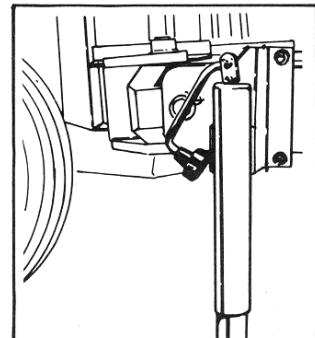

Fig. 31 Wing Tube Jack Mount
3. If hitch tongue is light, mount hitch jacks on wing tube before tractor is removed. (See Fig. 31 and Page 1-2 – Negative Hitch Weight Warning). Two wing tube jack brackets are standard on all Superweeders. The second wing tube jack bracket is optional on most Culti-Harrows and Superharrows. Order PN 8C2280 for bracket and PN 8D0330 for mounting U-bolt.